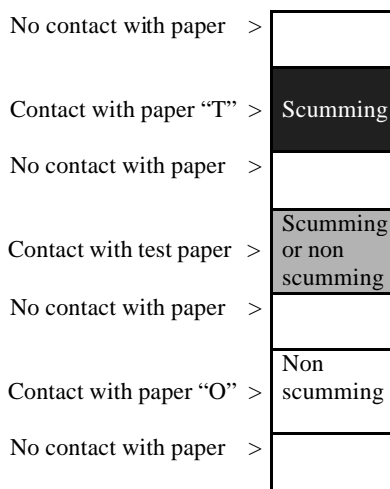

Fig. 2: aluminium strip
1. Examine the plate strip visually on which parts have accepted ink (see figure 2):